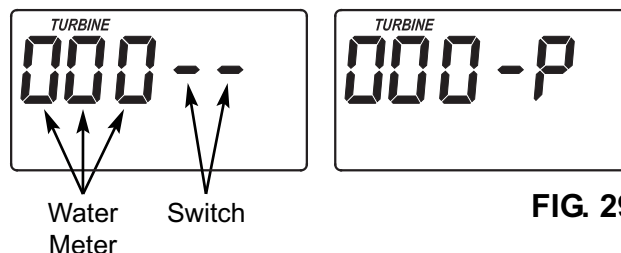

FIG. 29
3. The letter "P" and a dash (or dashes) indicate POSITION switch operation (See Figure 29). If the letter appears, the switch is closed. If the dash shows, the switch is open.